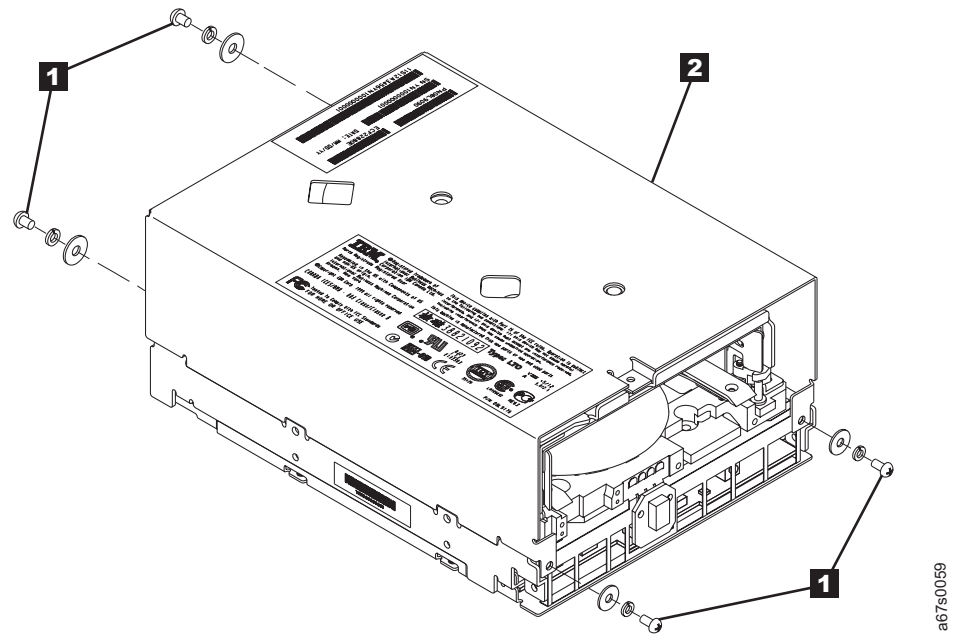

Figure 37. Removing the cover of the tape drive
- a. Remove the four cover-mounting screws and washers (see **1** in Figure 37).